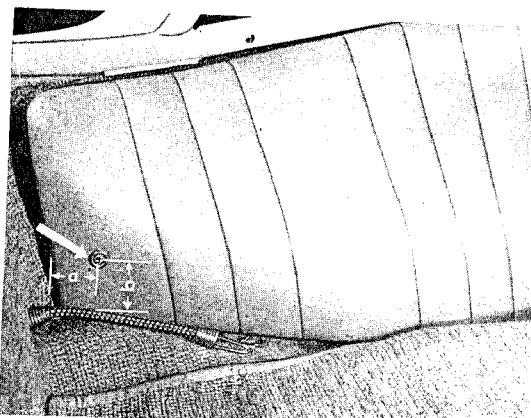

Fig. 142
c) Remove the panel and locate the hole with a punch. The hole is located approx. "a" = 3.5 cm (1 $\frac{1}{8}$ in.) and "b" = 6 cm (2 $\frac{3}{8}$ in.) as in Fig. 142.